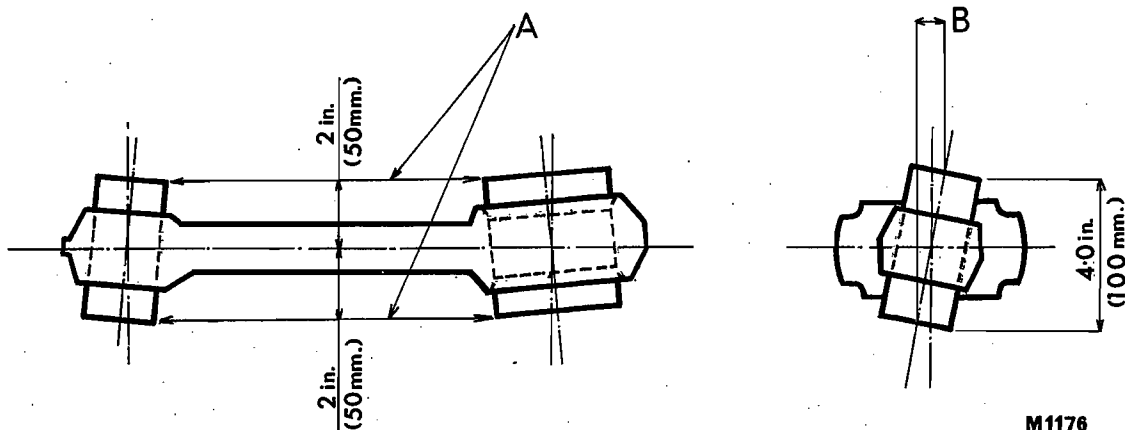

FIG. 13 CONNECTING ROD ALIGNMENT
6. Check each connecting rod for parallelism and twist. Refer to Connecting Rod Alignment Data, Fig. 13.